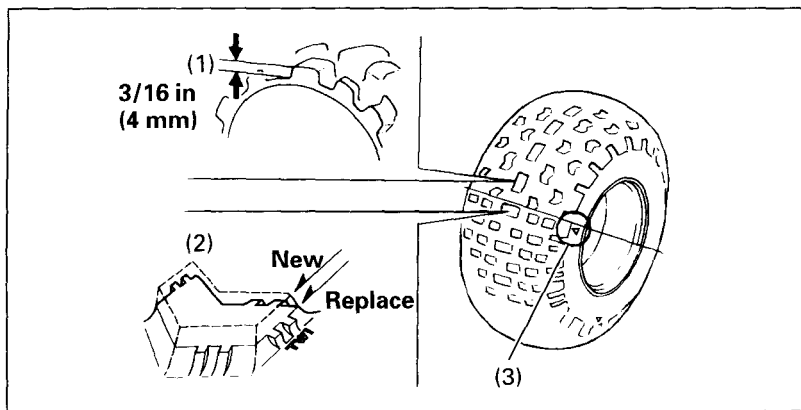

Fig. 4-37
To check the condition of a tire tread, measure the groove depth (1) (Fig. 4-37) in the center of the tire, or check the wear indicator (2). The minimum tread depth is 3/16 in (4 mm). When the tread depth is less than recommended, the tire should be replaced.